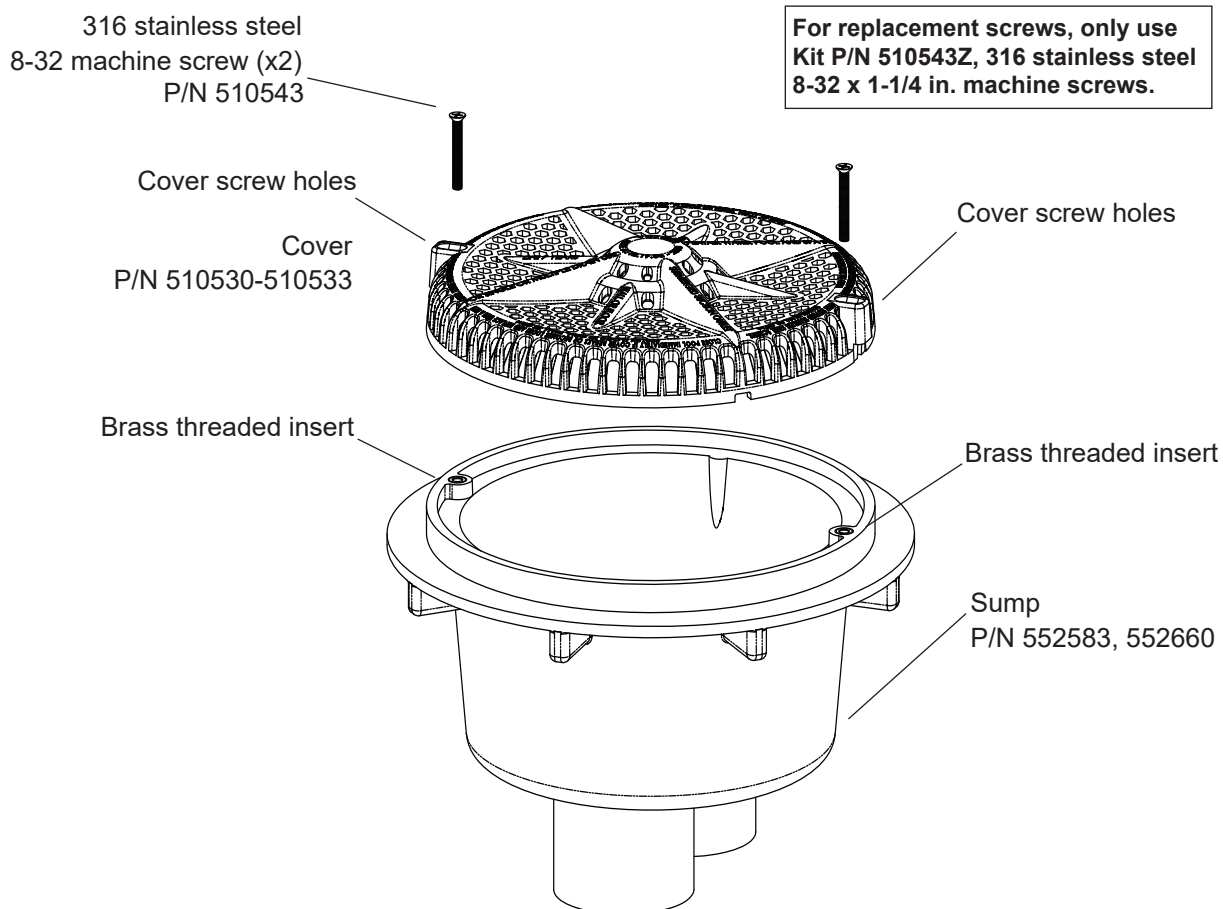

Figure 1
- Mount the drain cover on top of the sump (see Figure 1).
- Install the two (2) 316 stainless steel 8-32 machine screws (provided) into the holes in the top of the cover. Using a No. 2 Philips head screwdriver, tighten each retaining screw to a torque value of 10.00 (minimum) to 15.0 (maximum) in/lbs to secure the cover. HAND START EACH SCREW. DO NOT OVER TIGHTEN THE SCREWS. DO NOT ASSEMBLE WITH POWER TOOLS.